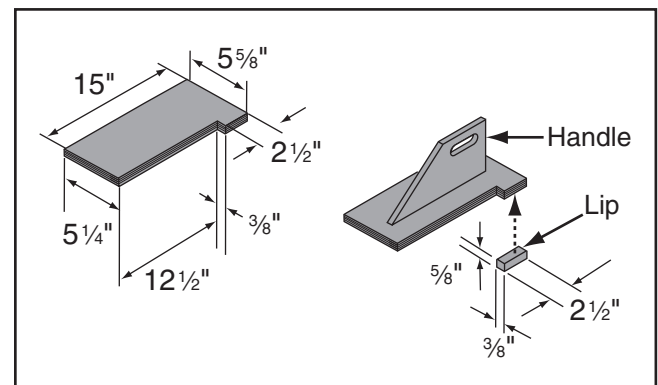

Figure 82. Push block dimensions and construction.
3. Using $\frac{3}{4}$ " material you used in previous steps, cut out pieces for push block per dimensions shown in **Figure 82**; for handle, cut a piece 10" long by 5"–9" high and shape it as desired to fit your hand.